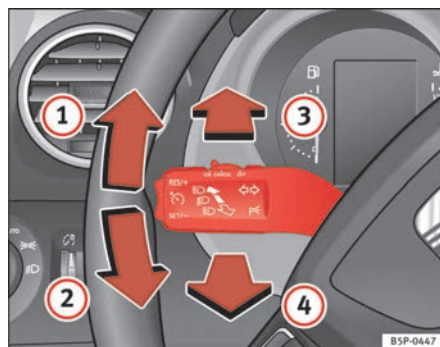

Fig. 76 Indicator and main beam lever
- Move the lever all the way up \Rightarrow page 116, fig. 76 ① to indicate **right**, and all the way down ② to indicate **left**.
- Press the lever forward \Rightarrow page 116, fig. 76 ③ to switch on the main beams.